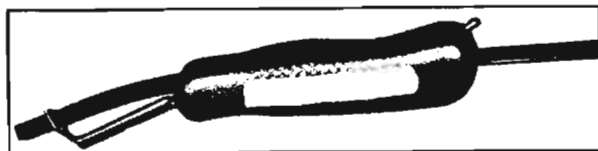

Fig. 10-89a—Weatherstrip Retainer Tool J-2189
6. Feed one end of the weatherstrip retainer into the handle of Tool J-2189 (fig. 10-89a) and out through the end which spreads the weatherstrip channel.